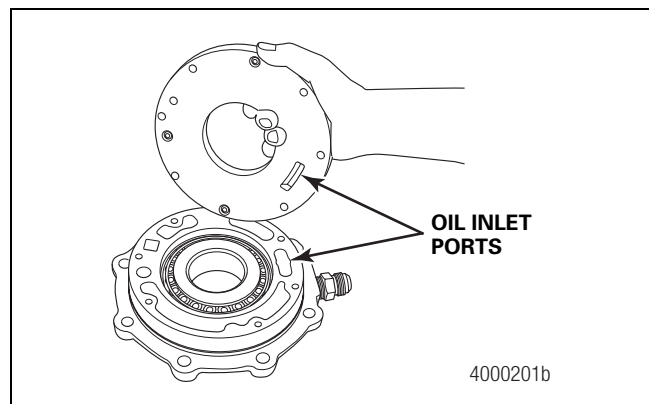

Figure 4.27
- B. Mark the position of the pump to the cage for reassembly. Figure 4.27.